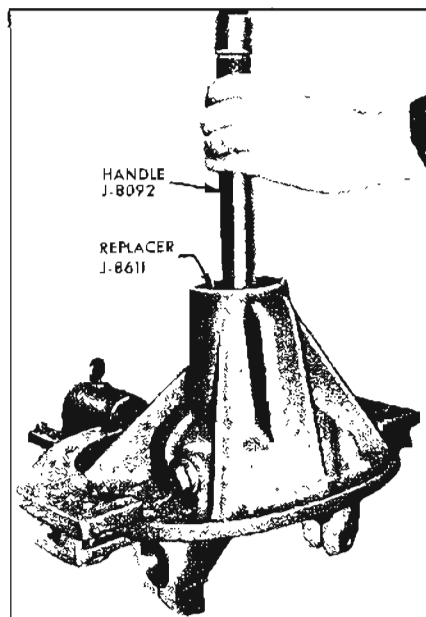

Figure 6-25—Installing Front Pinion Bearing Outer Race
1. Drive front pinion bearing outer race against shoulder on carrier using Replacer J-8611 with driver handle. See Figure 6-25.